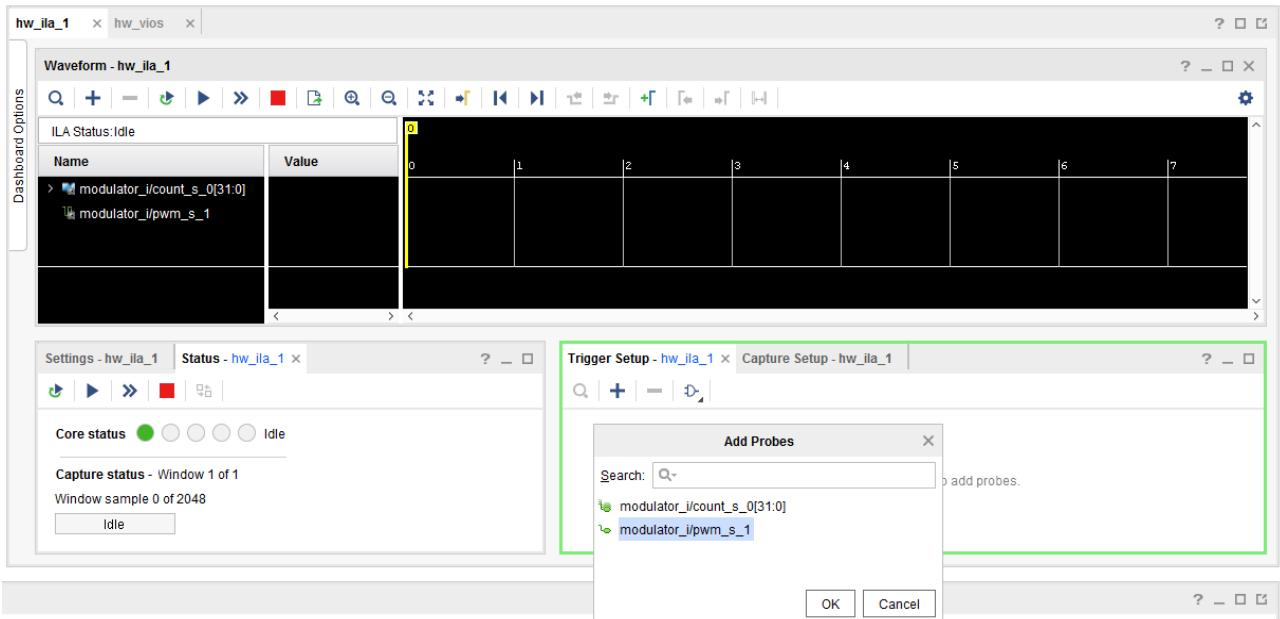

Figure 11.38: Add Probes to the Trigger Setup window
5. In the **Add Probes** window select only **pwm_s_1** probe and click **OK**, see Figure 11.38.
The ILA core can capture data samples when the core status is Pre-Trigger, Waiting for Trigger or Port-Trigger, see Figure 11.38. As we already said, Capture mode selects what condition is evaluated before each sample is captured. Basic Capture mode stores a data sample during a given clock cycle only if the capture condition evaluates "true". We used **pwm_s** signal to do the signal capturing.